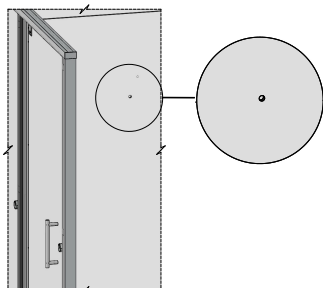

Fig.32
- Take the robe hook assembly and insert the threaded side of the robe hook into the drilled pilot hole on the opposite side of the material. Screw the robe hook into the button washer. **Fig.32.**